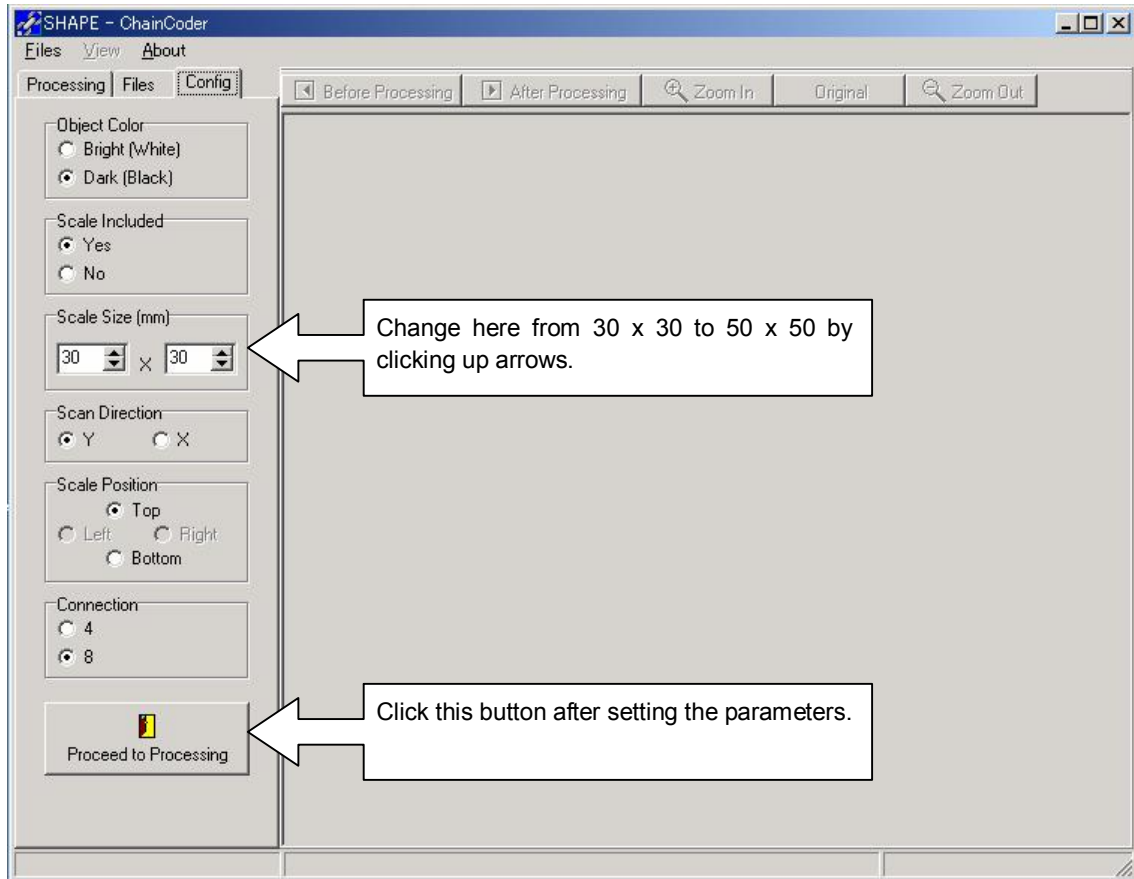

Fig. 4
2. Set or confirm the analysis parameters as follows (A-E) (Fig. 4).
3. Click the "Proceed to Processing" button (Fig. 4).